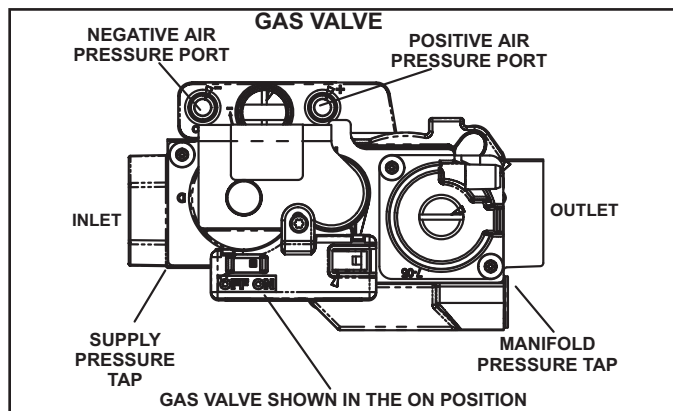

FIGURE 54
Gas Valve Operation (FIGURE 54)
- 6 - Move gas valve switch to OFF. See FIGURE 54.
- 8 - Move gas valve switch to ON. See FIGURE 54.